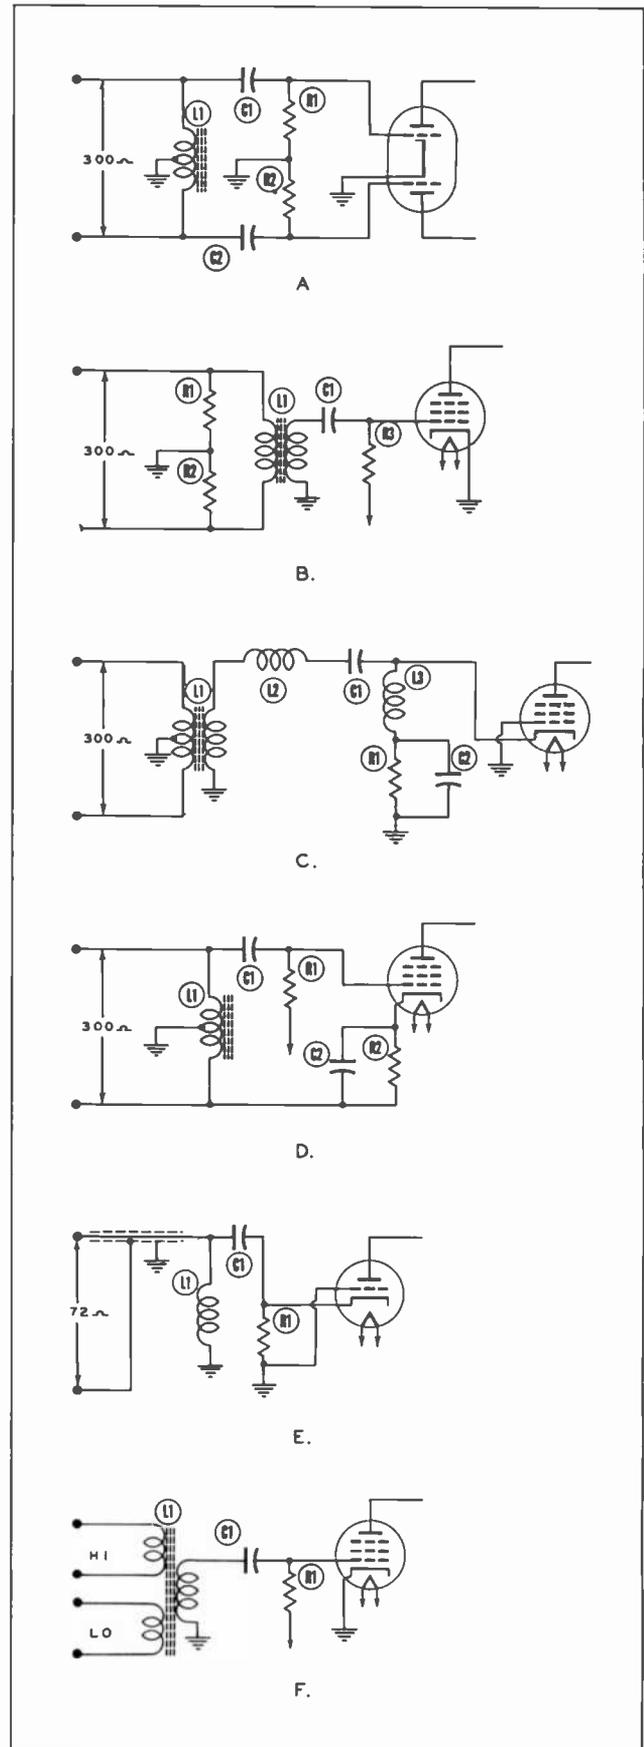

Fig. 1-1. Television Tuner Input Circuits.
Figure 1-1 shows some of the basic input circuits used. (A) employs a small center tapped choke having a powdered iron core. The center tap is grounded, balancing the circuit. The signal is capacitively coupled to the grids of a push-pull amplifier. The grid loads in this circuit are usually 150 ohms and the center point is returned to ground directly or through an AGC circuit to control the gain of the RF stage. Since this circuit is balanced throughout, no special transformer is required. In (B), however, the balanced 300 ohm input is coupled to a single grid by using a transformer. Two resistors of equal value are connected in series across the primary with their junction grounded to balance the input. One side of the secondary is grounded and the other side is coupled to the grid. The grid return may be grounded or returned to an AGC circuit. (C) is a similar circuit except that the signal is coupled to the cathode of the tube which has its grid grounded. Bias for the tube is developed by the current flow through the resistor in the cathode circuit. Since this resistor is bypassed, all of the signal will be present across the choke coil (which may be tuned) in the cathode circuit. The circuit shown in (D) is a combination of (B) and (C) in that the signal is coupled to both the grid and cathode. As in circuit (C), bias is developed by the current through the resistor in the cathode circuit. The grid return resistor may be grounded or connected to an AGC circuit.